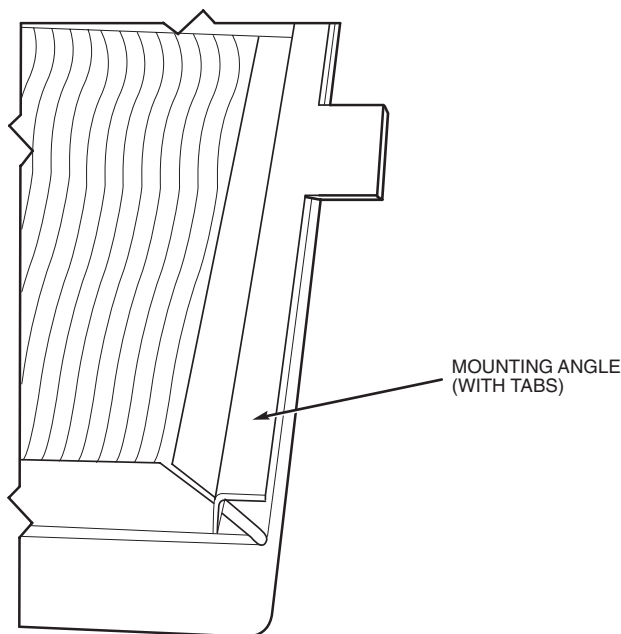

Fig. 44 — Mounting Angle (With Tabs) Attached to Filter Track Assembly
15. Attach remaining mounting angle (with tabs) to other end of the filter track with no. 10 screws provided. See Fig. 44.